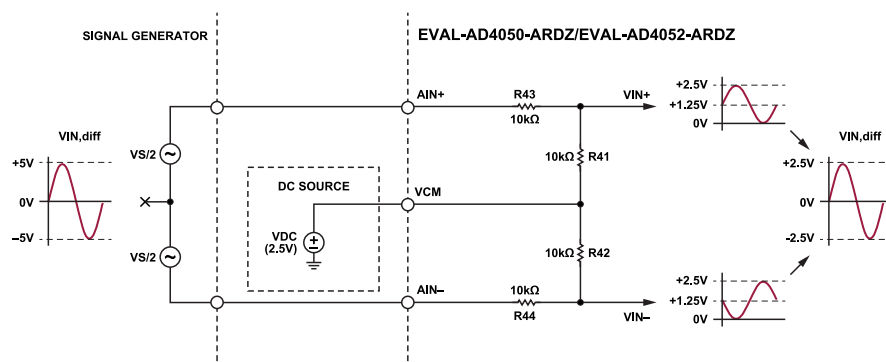

Figure 15. Floating Differential Signal Generator Example
- For signal generators with floating, differential outputs, the VCM input provides a means to apply the necessary DC offset to satisfy the input range specification of the MAX44260 amplifiers. Figure 15 gives an example with a 2.5 V VREF and amplifiers in unity-gain configuration. The differential input swing (VIN,diff) is 5 V peak or 10 V p-p and VCM is 1.25 V DC.